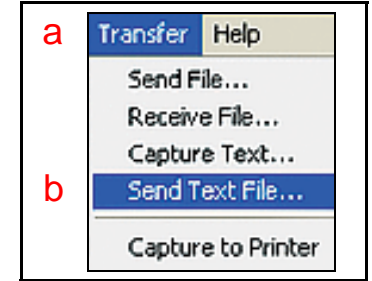

Figure 11 Send Text File Select Menu
2. Mouse-click transfer on the HyperTerminal Screen, and select "Send Text File..." from the Pull-down Menu selections available (See Figure 11 a & b).